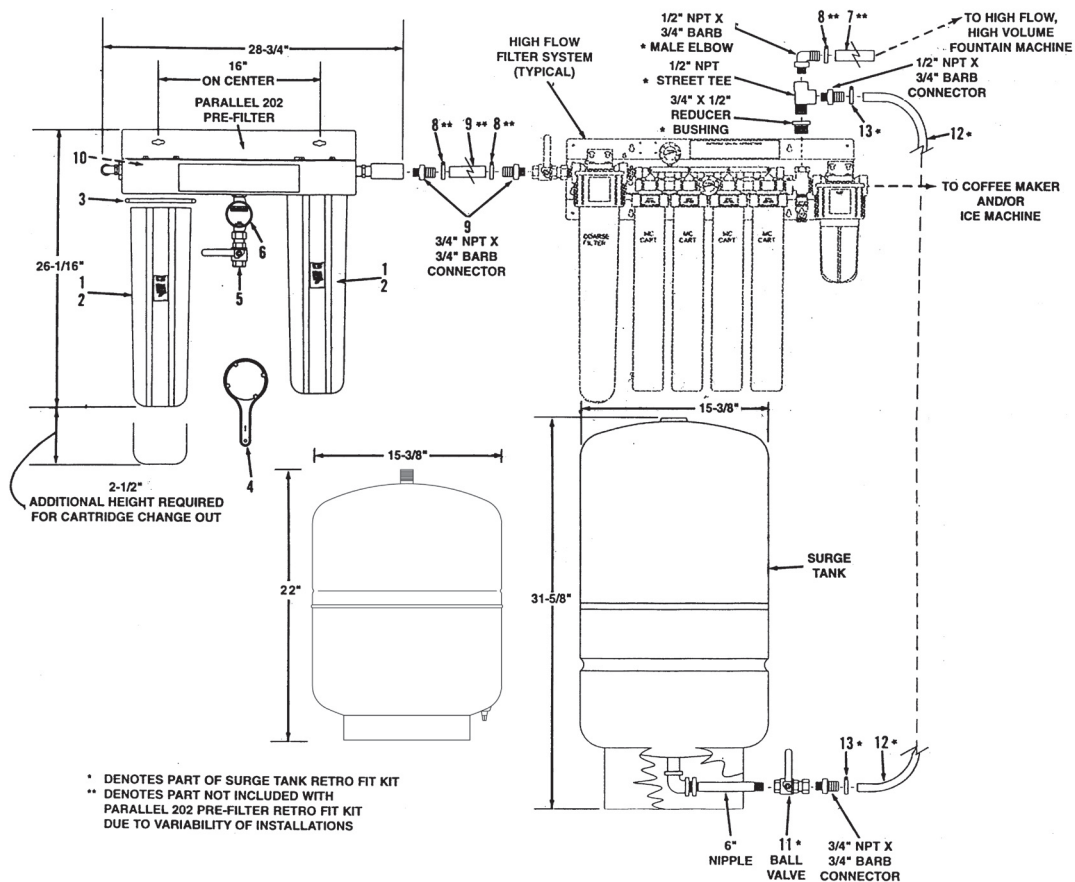

Figure 1. Parallel 202 Pre-Filter and/or Extra Capacity Surge Tank or Standard Surge Tank Retro Fit Kit
6. Install a 1/2" NPT tee into the bushing and orient as shown in figure 1.
7. Install a 1/2" NPT x 3/4" barb connector into the branch of the plated cross and a 1/2" NPT x 3/4" barb elbow into the run of the plated cross. Orient the elbow as shown in figure 1.